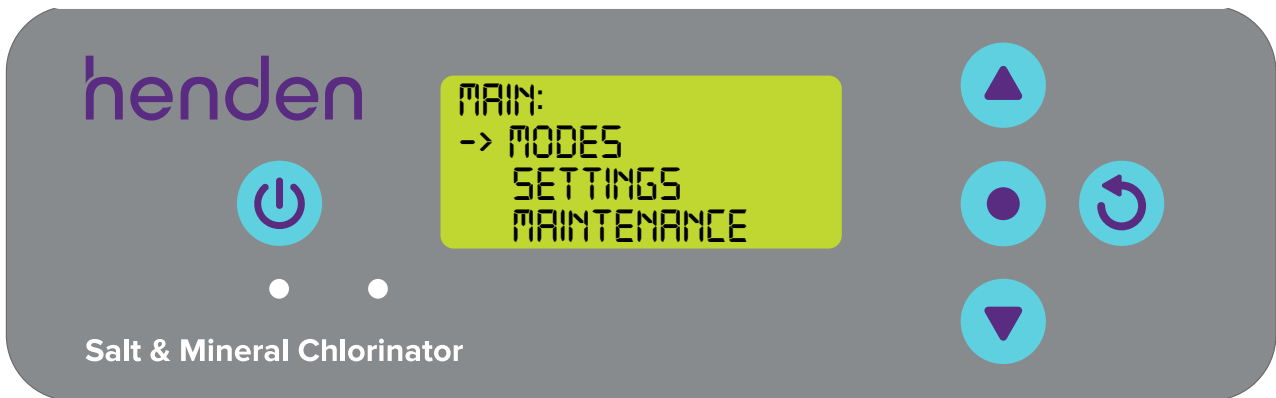

Figure 9.14
- From the **HOME SCREEN**, press the  **menu/setting select** button and go into MODES (refer Figure 9.14).